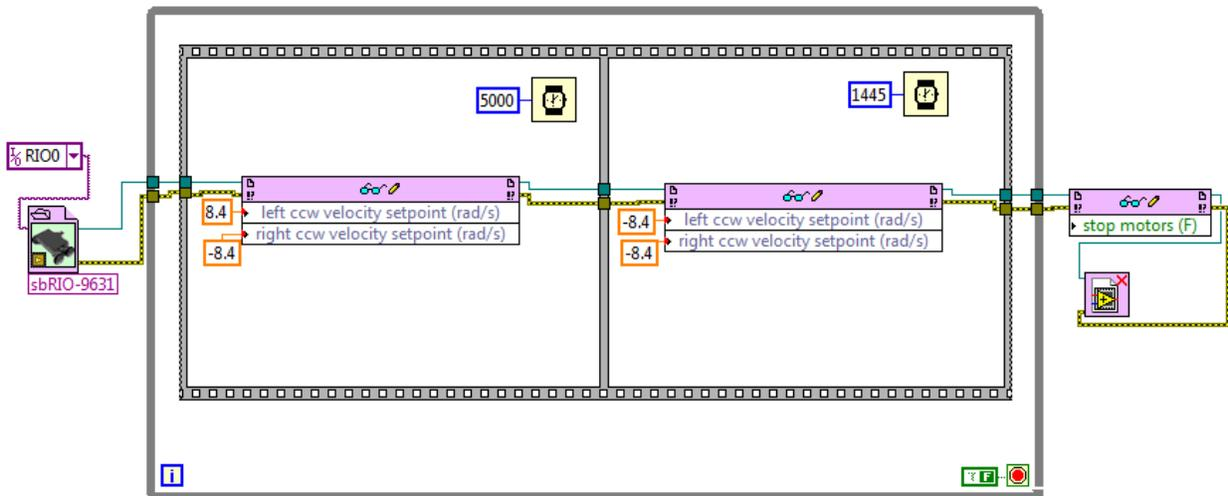

Figure 2.11
**Step 10:** Connect an error wire as shown in figure 2.11